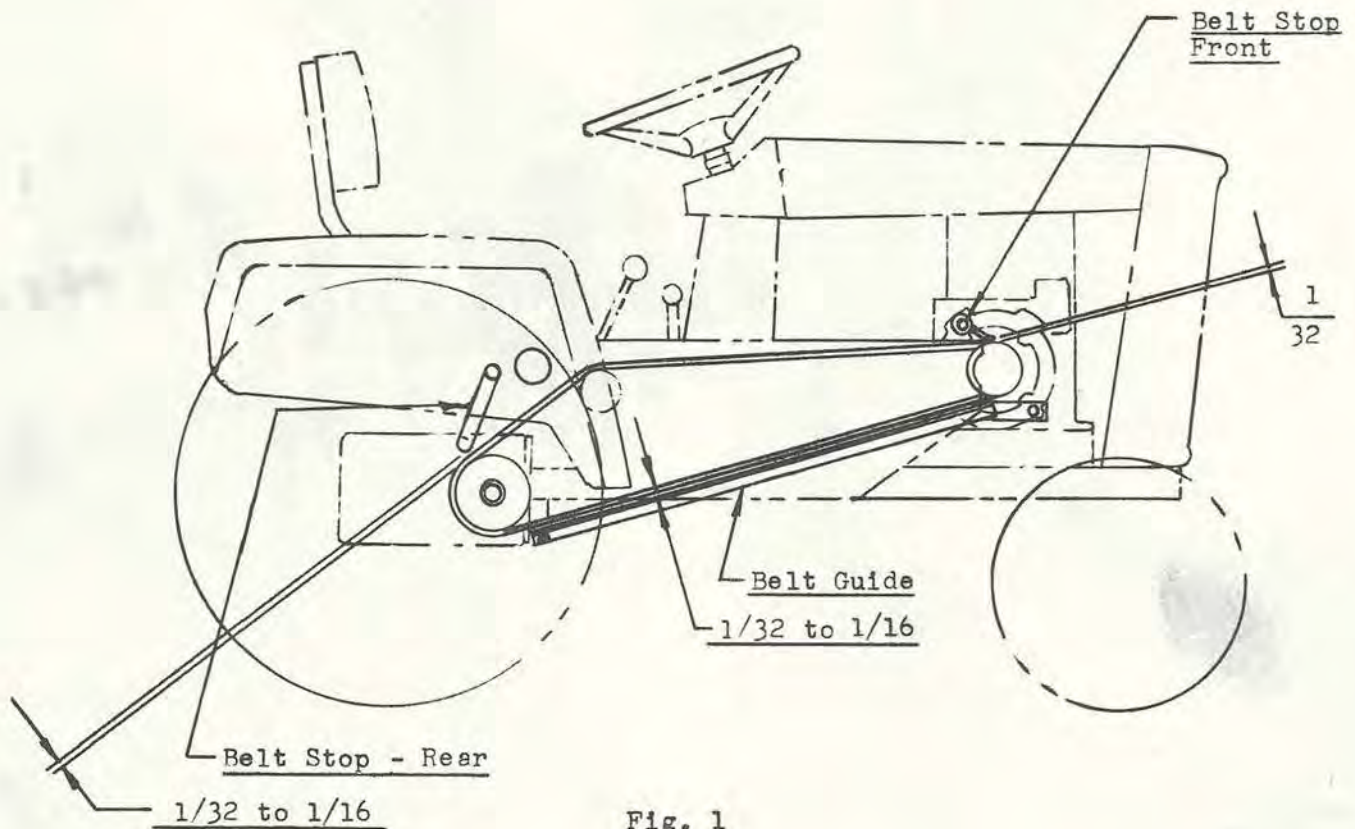

Fig. 1
- I. **FIG. 1** — A Belt Guide, Part No. 4195 added. It attaches to the Frame and to the side of Engine and runs along bottom side of Drive Belt. It attaches to the Frame with a Bolt ($\frac{3}{8}$ -16 x 1) Part No. 908034-4 and Nut ($\frac{3}{8}$ -16) Nylock, Part No. 915113-6 and to the Engine with a Bolt ($\frac{1}{16}$ -14 x 1) Part No. 908046-4 and Lock Washer $\frac{1}{16}$ Dia., Part No. 920084-4. The Guide is to be tightened to Tractor only when it is placed along bottom of Belt with $\frac{1}{32}$ " to $\frac{1}{16}$ " clearance.
- II. **FIG. 1** — A Belt Stop (Rear), Part No. 4486 fits inside the Right Rear Fender with a Bolt ($\frac{3}{8}$ -16 x $\frac{3}{4}$) Part No. 908032-4 and Lock Washer $\frac{3}{8}$ Dia., Part No. 920156-4 and extends down to top of Drive Belt on Transmission Pulley. The Belt Stop is to be tightened only when it is $\frac{1}{32}$ " to $\frac{1}{16}$ " away from top of Belt.
- III. **FIG. 1** — A Belt Stop (Front), Part No. 4796 fits on Engine with a bolt 908046-4 ($\frac{1}{16}$ -14 x 1) and Plain Washer 920010-4 and Lock Washer 920084-4. It extends down to Belt on Engine Pulley. It is to be tightened only when it is $\frac{1}{32}$ " away from top of Belt.